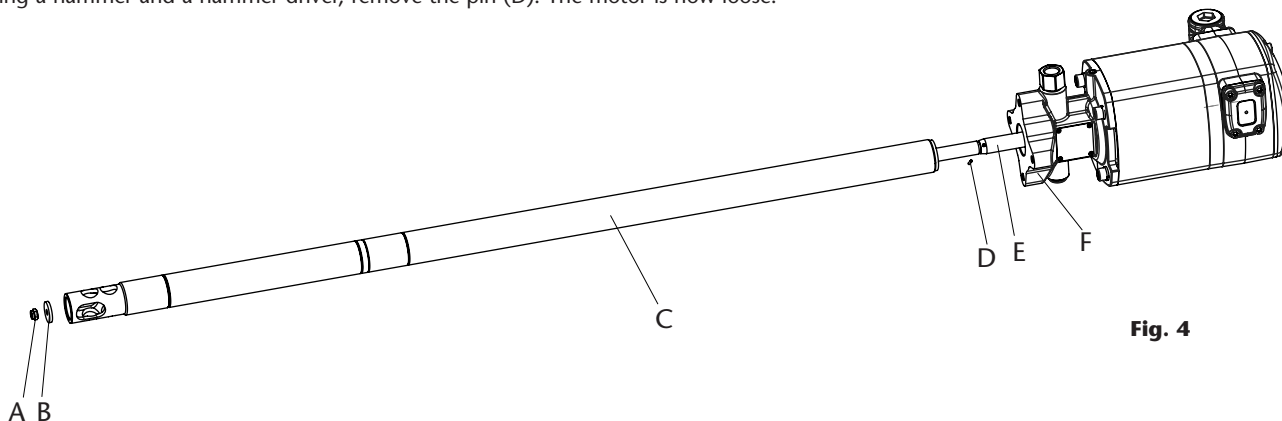

Fig. 4
SEPARATE THE AIR MOTOR FROM THE PUMP (FIG. 4)
1. Fix the pump horizontally in a vice (Fig.4). Tap with a hammer on the upper pipe (C) near the junction with the body (F) to break the thread sealant.
2. Unscrew the choke nut (A) and remove it (B).
4. Once unscrewed, pull the motor until you can see the pin (D) on the rod (E).